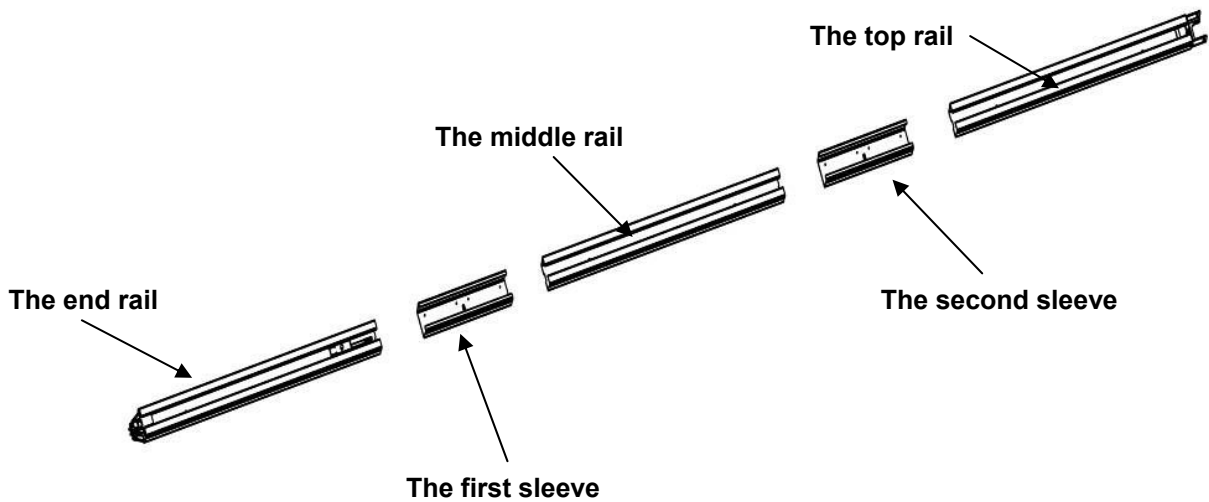

FIG.6
- As FIG.6, slide the 2nd sleeve to the other end of middle rail, slide the top rail into the 2nd sleeve;